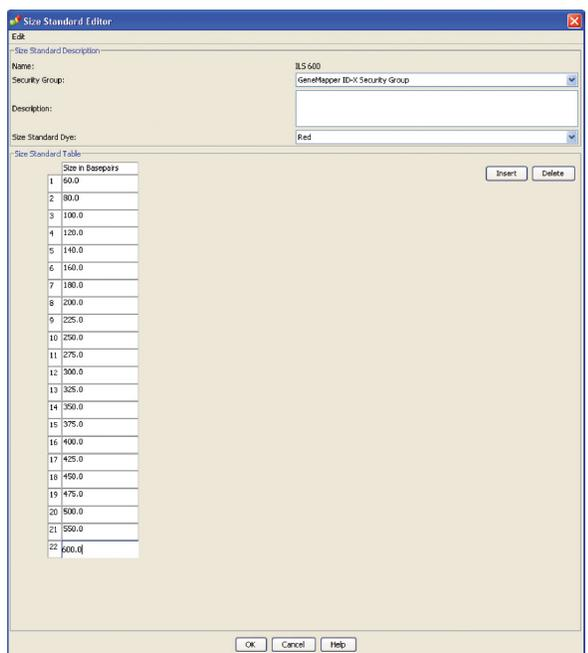

Figure 22. The GeneMapper® ID-X Size Standard Editor.
4. In the 'Size Standard Editor' window (Figure 22), select **GeneMapper ID-X Security Group** as the Security Group. This allows access for all users of the software. Other security groups may be used.